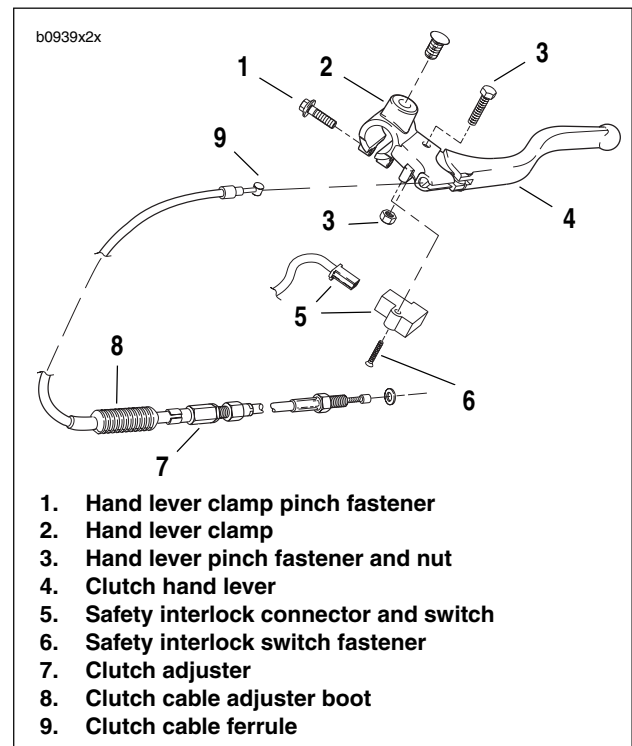

Figure 2-95. Clutch Hand Control Assembly
2. See Figure 2-95. Slide clutch cable adjuster boot (8) up to access clutch adjuster (7).
3. Loosen clutch adjuster (7) to release tension from hand lever (4).
4. Remove clutch cable ferrule (9) from hand lever (4).
5. Remove hand lever pinch bolt (3).
6. Remove hand lever (4) from hand lever clamp (2).
7. Remove safety interlock switch (5).
- a. Remove hand lever clamp fastener (1) and spin clamp (2) to access safety interlock switch (5).
- b. Disconnect safety interlock switch connector (5) and remove switch fastener (6) and switch (5).
1. See Figure 2-95. Slide hand lever clutch clamp (2) over left clip-on. Loosely tighten hand lever pinch fastener and nut (3).
3. Connect safety interlock connector and switch (5).
4. Install safety interlock switch (5) with fastener (6) tightening to 7-10 **in-lbs** (0.8-1.0 Nm).